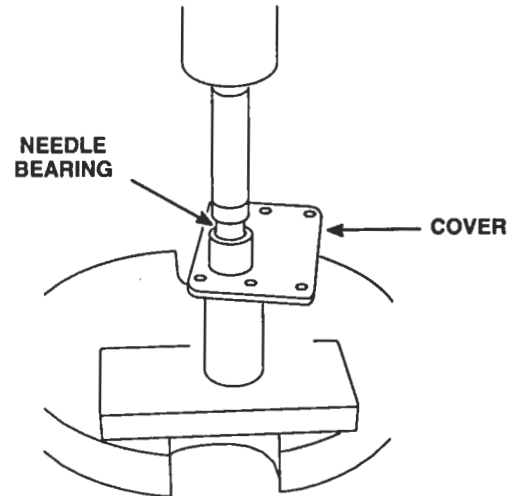

Figure 4. Needle Bearing Removal from Governor Cover
6. Wash the cover assembly thoroughly in clean fuel oil and inspect the needle bearings for wear or damage. If bearing removal is necessary, place the inner face of the cover over the opening in the bed of the press. Place remover tool J 21967-01 on top of the bearing (Figure 4.) and press both bearings out of the cover.